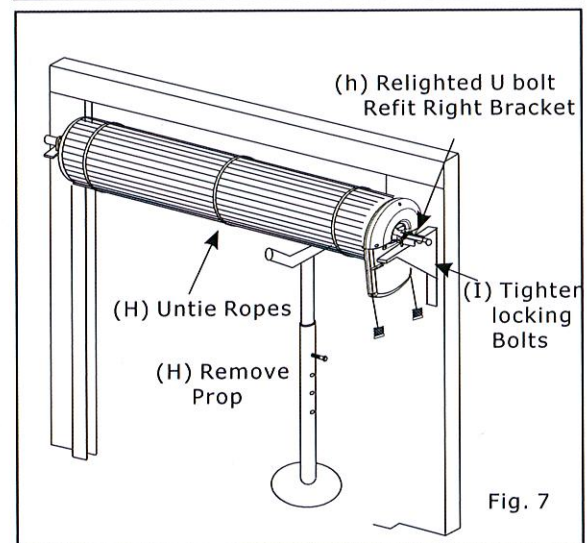

Fig. 7
- (i) Straighten the Drive Unit and position as per Fig 7. Tighten the two locking bolts firmly to secure Drive Unit.